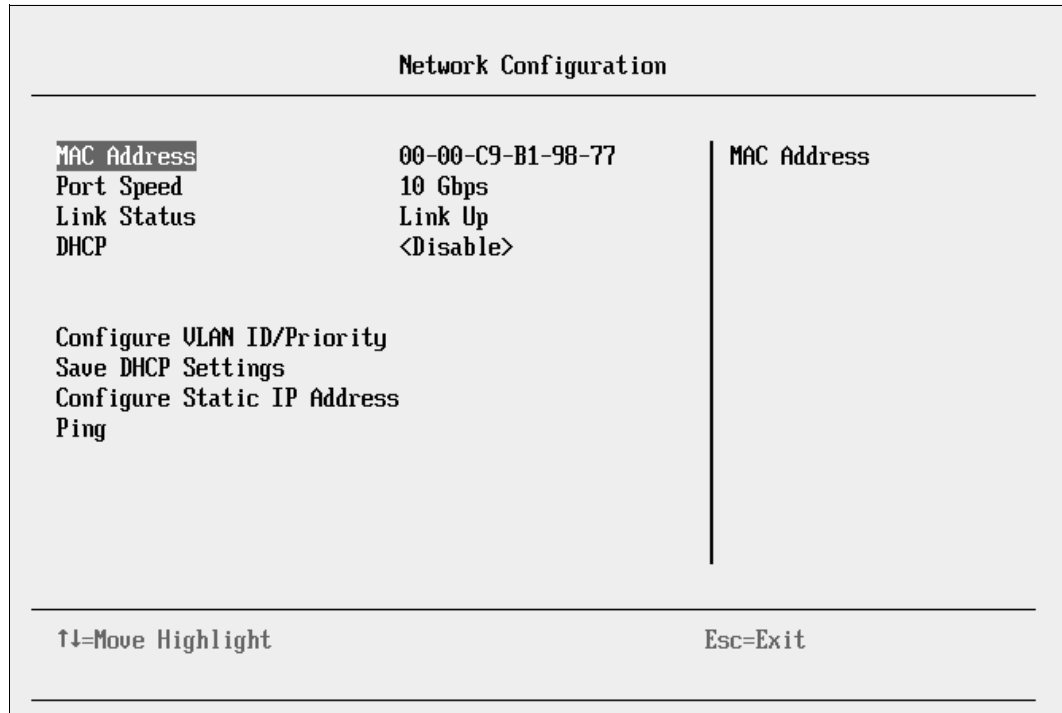

Figure 9-75 Network Configuration panel
4. In the Network Configuration panel (Figure 9-75 here):
6. In the Network Configuration panel (Figure 9-75), select **Configure Static IP Address**, and then press Enter.